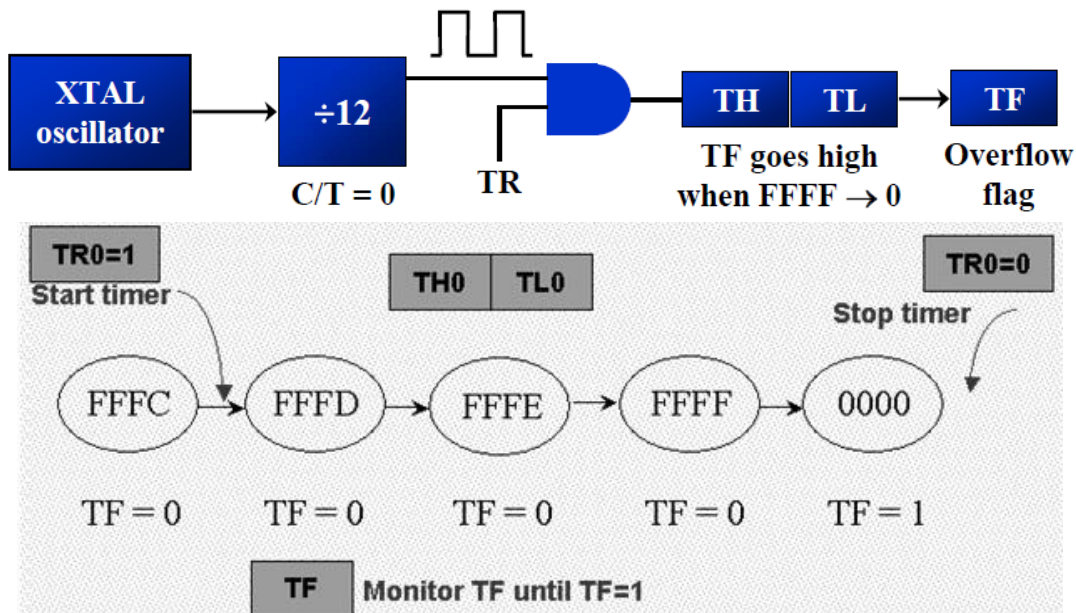

Fig 4.11 Mode 1 Operation of Timer
- The figure 4.11 explains the Mode 1 operation of timer